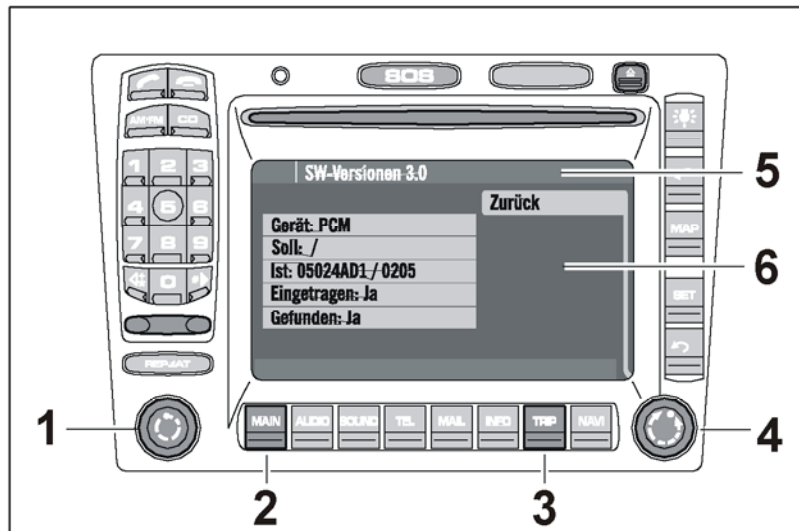

Figure 1
- 2 Switch on PCM2.1 if necessary by pressing the left rotary knob (⇒ *Figure 1 -Item 1-*).
- 3 Press the "MAIN" and "TRIP" buttons (⇒ *Figure 1 -Items 2 and 3-*) simultaneously on the PCM2.1 to go to the "SW versions" display.
- 4 Press the right rotary knob (⇒ *Figure 1 -Item 4-*) in the "SW versions" display to select the "PCM" menu item.
- 5 Press the right rotary knob (⇒ *Figure 1 -Item 4-*) to confirm your selection.
- Header (⇒ *Figure 1 -Item 5-*): SW versions 3.0
- Main display (⇒ *Figure 1 -Item 6-*): 05024AD1/0205
- Header (⇒ *Figure 1 -Item 5-*): SW versions 3.2
- Main display (⇒ *Figure 1 -Item 6-*): 05024CD1/3905
- Header (⇒ *Figure 1 -Item 5-*): SW versions 3.3
- Main display (⇒ *Figure 1 -Item 6-*): 05024ED1/4705